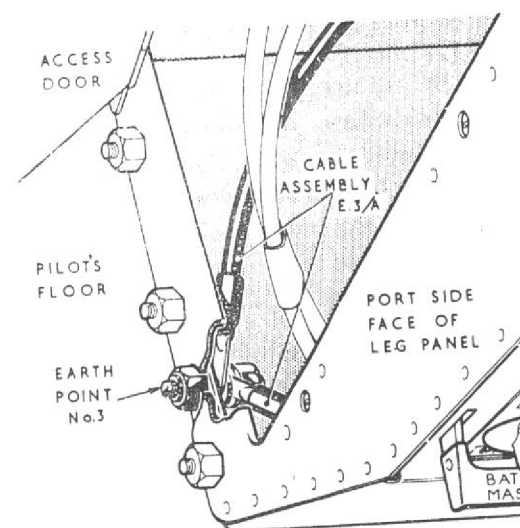

Fig. 3 Earth point 3
- (1) Render the aircraft electrically safe, as described in Group A.1.
- (2) Disconnect the Bowden cable from the rudder bar release lever at the top of the leg panel and stow it away from the panel.
- (3) Disconnect cable assembly A11 from cable assembly A111 at the plug and socket break, located on the port side of the instrument panel mounting structure. Remove any straps and clips securing the A.11 cable and coil it back to the leg panel. Fit an approved cap and cover to the plug and socket.
- (4) Disconnect cable assembly E3/A from earth point 3, obtaining access via the hinged door in the port side of the leg panel (fig. 3).
- (5) Disconnect all the plugs and sockets on the cable assemblies at the leg